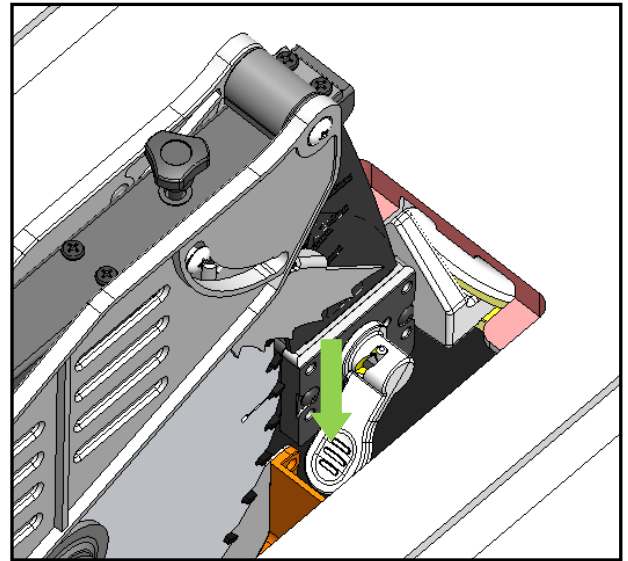

Fig. 3
3. Insert the spreader into the bracket slot and push down the handle, Fig. 3 to the lock the spreader.